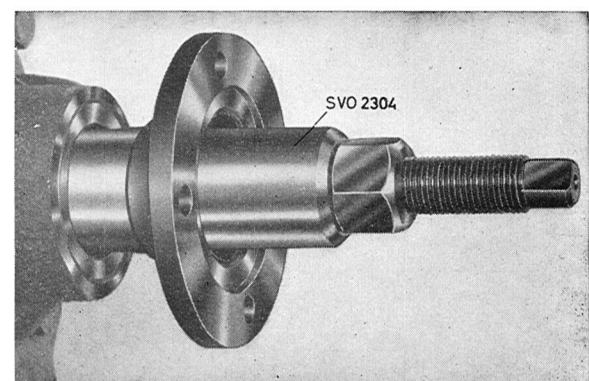

Fig. 4-25. Flange installation
4. Press on the flange with tool 2304, see Fig. 4-25. Re-store.